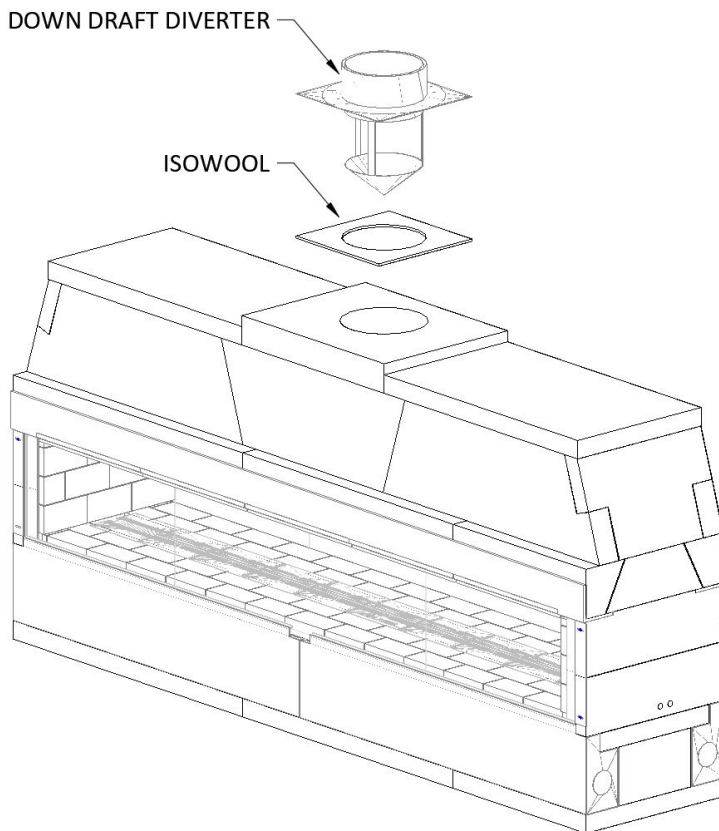

FIGURE 21
- 2) Center the Isowool blanket over Isokern Top Plate's outlet and trace the outlet's outline with a pen or marker. Cut a hole in the blanket along this outline to match the hole in the Isokern top plate. Center the cut Isowool blanket over the Isokern Top Plate flue opening, then center anchor plate over the Isowool blanket (**Figure 21**).
- 3) Secure the Anchor Plate with four (4) masonry anchors.